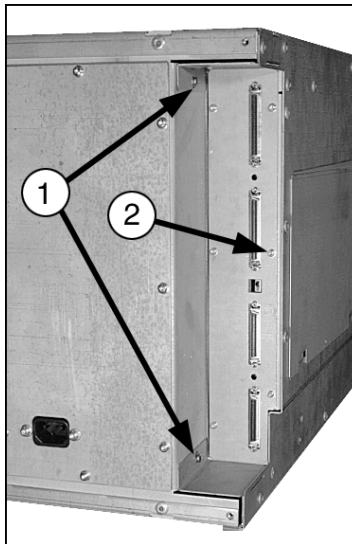

Figure 5-54. SCSI Interface Assembly - Rear Panel View
2. Remove the T-15 screw on both the upper and lower pulley covers and remove the covers. See Figure 5-54 (1).
3. Remove the six T-10 screws that mount the interface assembly to the rear panel. See Figure 5-54 (2).